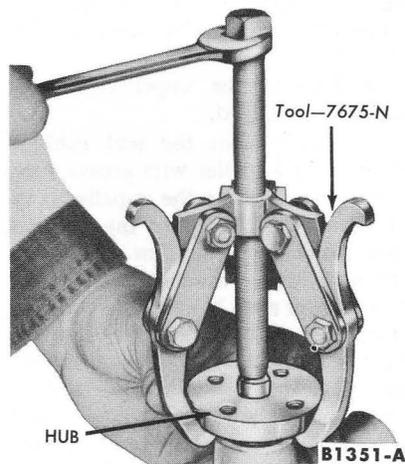

FIG. 2—Hub Removal
1. Remove the hub from the impeller shaft (Fig. 2).